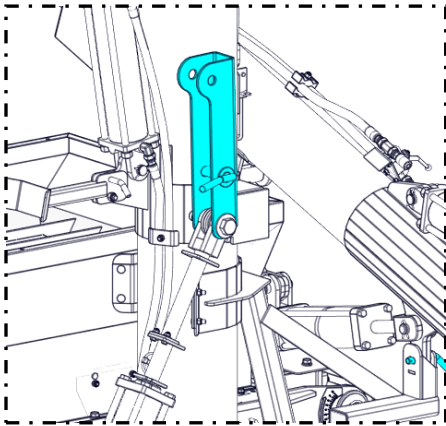

*Figure 4.21*
- D) Remove the transport lock mechanism that holds the discharge auger in the vertical transport position (Figure 4.21). Do not dispose of the pin since it can be used while transporting.